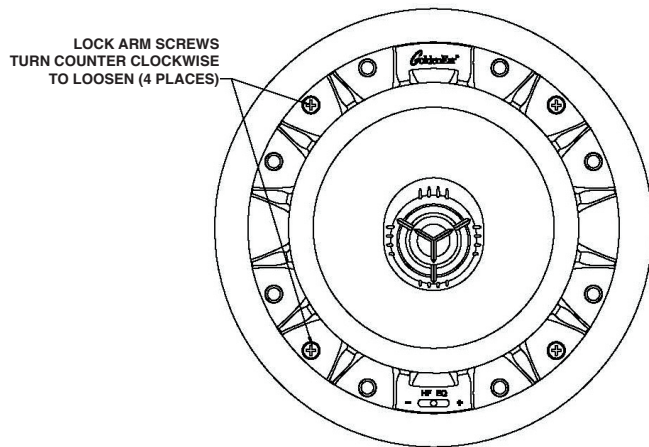

Figure 4
8. Loosen the four rotating lock arms on the speaker by turning the arm screws on the front of the speaker counterclockwise $\frac{1}{2}$ to 1 turn, just enough to allow the lock arm to move freely (Figure 4).